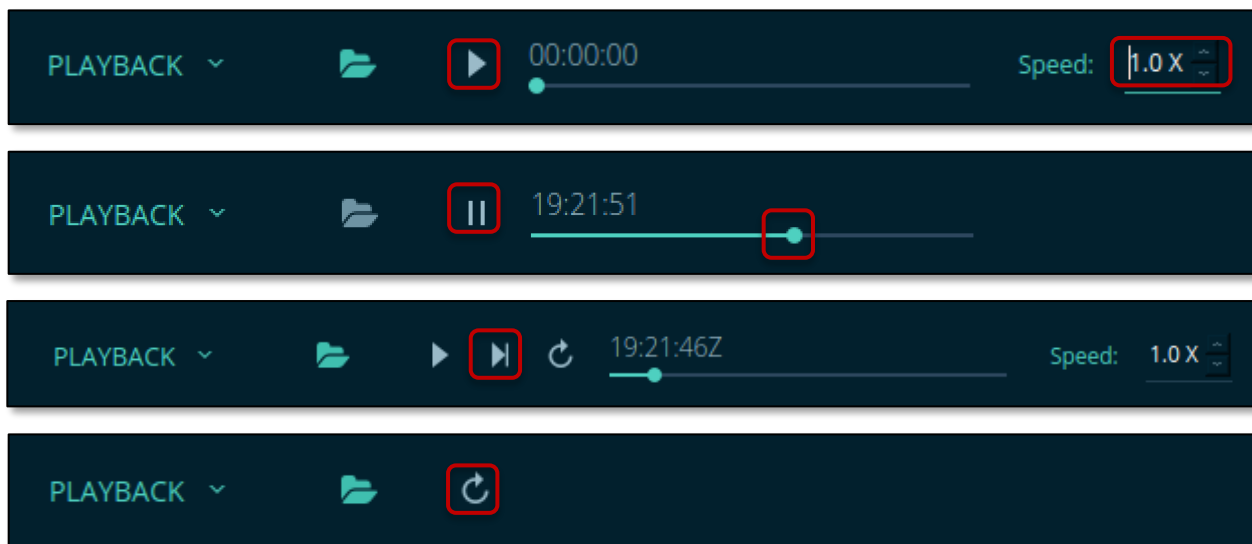

Figure 37. Visualize Tab: PLAYBACK Play (top), Pause, Step Forward, Replay (bottom)
- If you prefer to adjust the speed of the visualized recording, click the up/down arrows to cycle through the options – .5 (slowest), 1.0 (default), 1.5, 2.0, 2.5, 3.0, 3.5, 4.0, 4.5, and 5.0 (fastest) – and select the speed you prefer. See Figure 37. Visualize Tab: PLAYBACK Play \(top\), Pause, Step Forward, Replay \(bottom\).
8. To visualize the data, click the **Play** arrow , then click one or more sensor buttons. See Figure 37. Visualize Tab: PLAYBACK Play \(top\), Pause, Step Forward, Replay \(bottom\).
9. During play, you have two options for jumping to the approximate time you prefer to visualize. Select the **Pause** button  during play, then choose a method. See Figure 37. Visualize Tab: PLAYBACK Play \(top\), Pause, Step Forward, Replay \(bottom\).
10. To replay the recording after it ends, click the **Replay** arrow . See Figure 37. Visualize Tab: PLAYBACK Play \(top\), Pause, Step Forward, Replay \(bottom\).